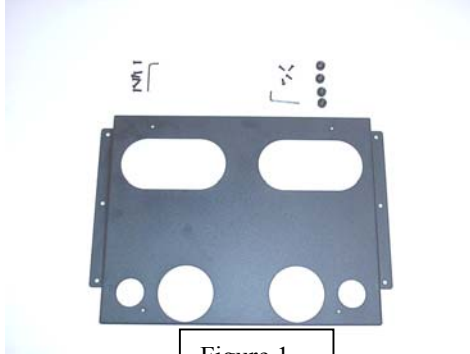

Figure 1
1. Using a 10-24 button head cap screw inserted from the back side of bracket, secure mounting button, to bracket (four places). See Figure 1.